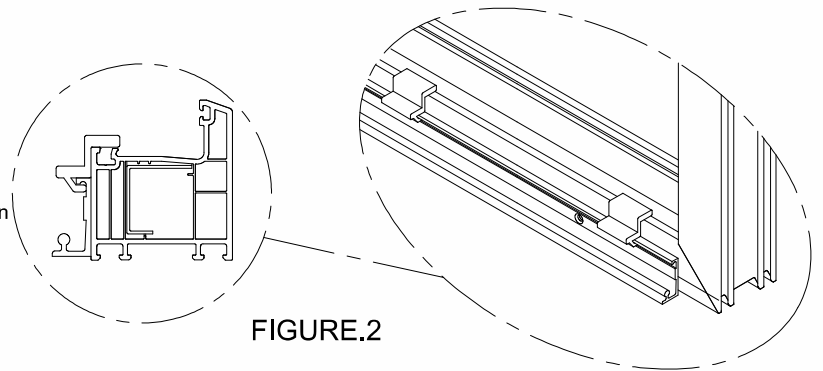

FIGURE.2
- b- Adjust bottom running rail as to be 20mm-0.787in shorter on each external edge of frame by using Z Rail Assembly Jig, then screw through the fitting part as shown in Figure.2